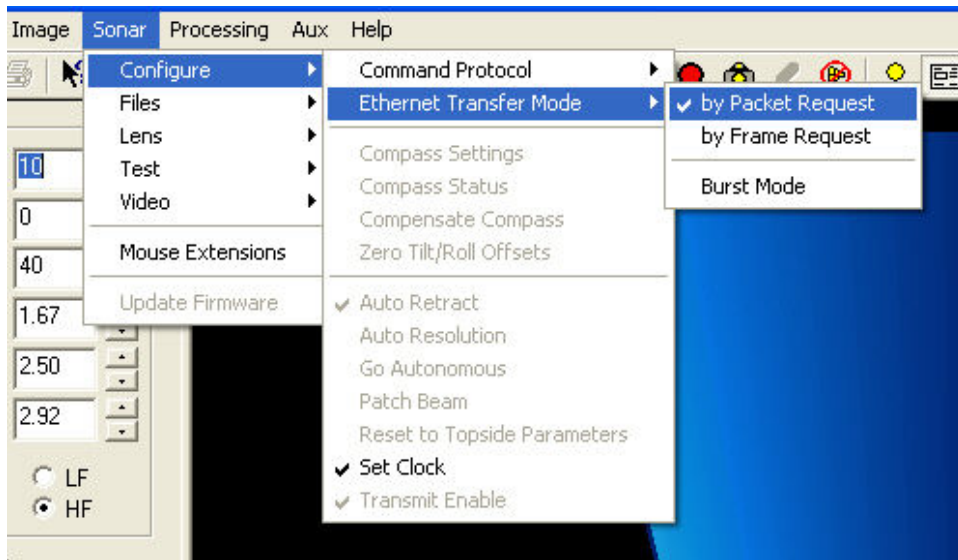

Figure 7. Select Ethernet Transfer Mode
- **IMPORTANT:** In the topside software, be sure the *Ethernet Transfer Mode* is set to *Packet Transfer*, or the Ethernet Extender will not communicate with the DIDSON. This is done by setting the following: *Sonar> Configure> Ethernet Transfer Mode> by Packet Request*. See **Figure 7**. For the highest possible frame rates, in software V5.16.04 and higher, choose: *Sonar>Configure>Ethernet Transfer Mode>by Packet Request>12 kb*.